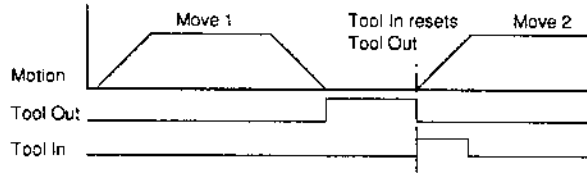

Figure 4-5. Batch Execution Mode 1
**Mode 1** If the Tool Cycle Delay is set to zero and the Tool In option is set to 1, Tool Out remains high until the Tool In signal goes high (switch is closed to +24V). Tool Out then goes low and the next move is started (see Figure 4-5).